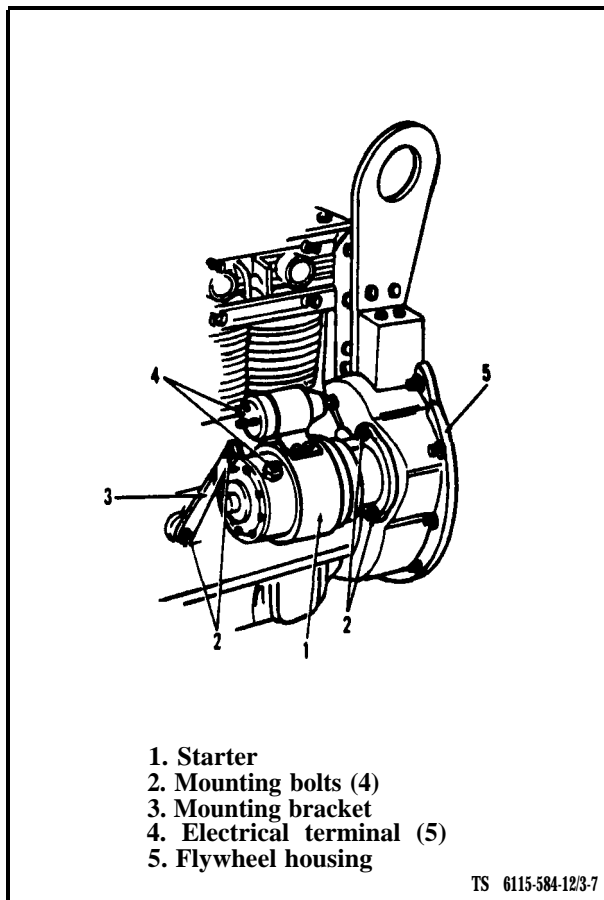

Figure 3-7. Electric Starter
- a. Cleaning and Inspection (see figure 3-7). On ASK equipped generators, remove BATTERIES access door. Clean engine starter (1) by removing loose dirt with a stiff nonmetallic brush. Clean off remaining dirt and oil with dry cleaning solvent (Fed. Spec. P-D-680). Inspect starter to see that electrical connections (4) are clean and tight. Check to see that mounting bolts (2) are tight. Check starter (1) for physical damage.